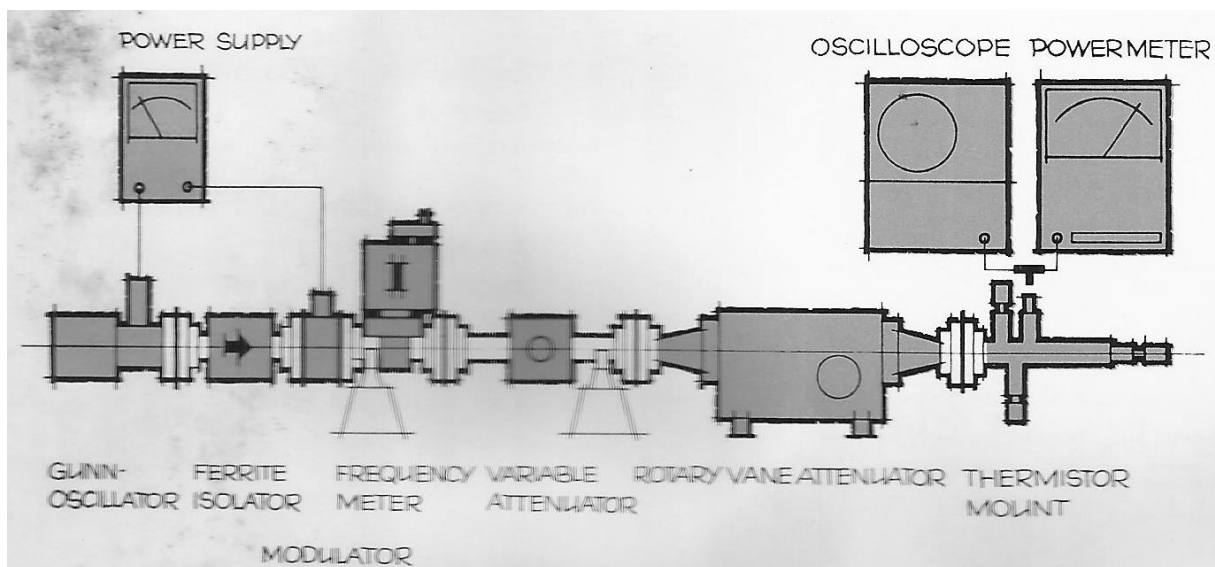

Figure 5: Experimental setup for microwave power measurement
- 1.1 Set up the experimental apparatus as shown in Figure 5. (Do not turn on the microwave oscillator's power supply yet).